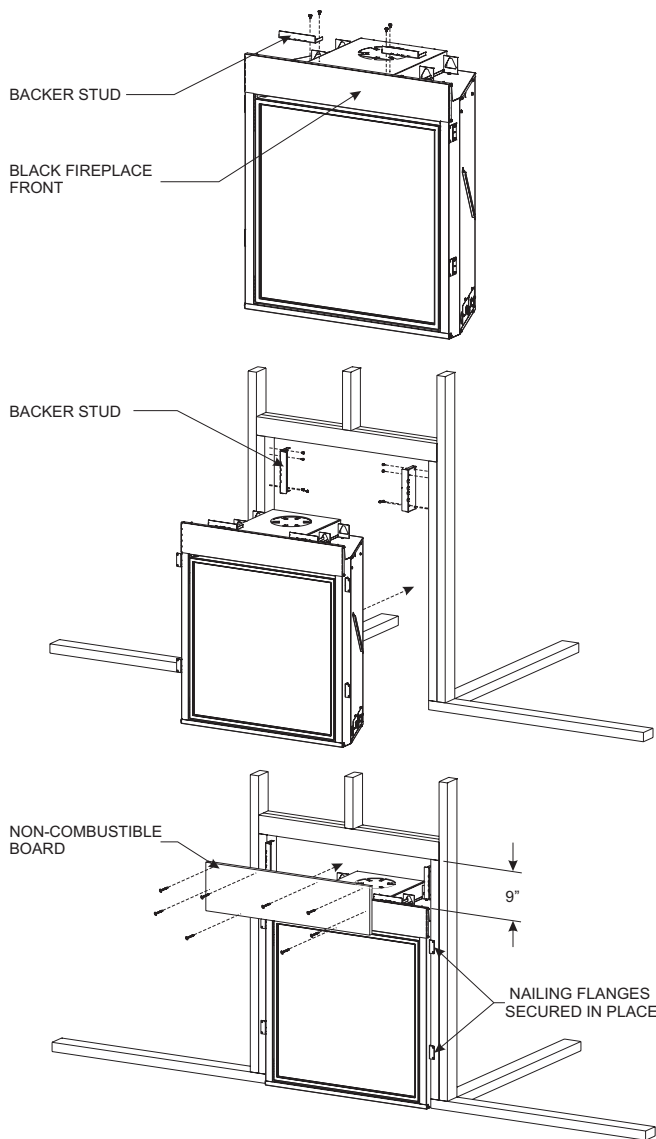

Figure 33
NOTICE: For finishing to top of fireplace, refer to **Figure 33**.
8. Attach the two backer studs to the firebox with four #10 x 1/2 Phillips screws (provided) as shown in **Figure 33**.
9. Attach the two backer studs to the vertical studs with four screws appropriate for installation (not provided) as shown **Figure 33**.
11. Mark non-combustible board for backer stud locations. Position the non-combustible board and secure with four #8 x 1 self-drilling drywall screws (provided) as shown in **Figure 33**. Four screws appropriate for installation (not provided) screw into the header. See **Figure 33**. To avoid damage to the non-combustible board, do not use more screws.